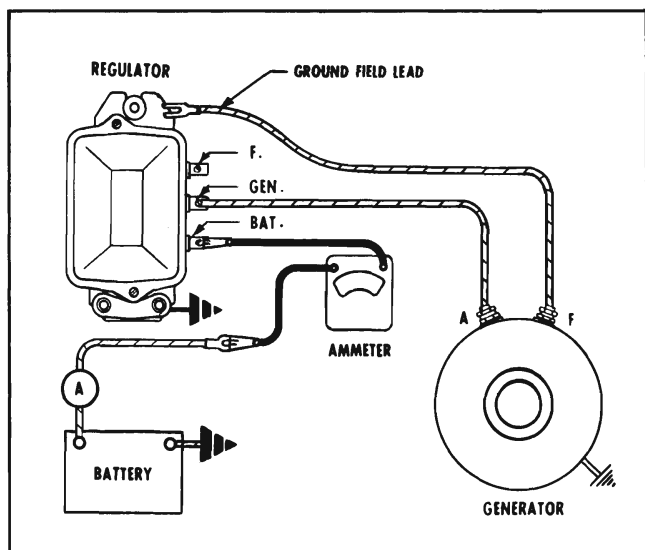

Fig. 11-44 Checking for Oxidized Contact Points on Double Contact Voltage Regulator
4. On double contact voltage regulator, disconnect field lead from regulator "F" terminal and ground it on regulator base (Fig. 11-44).